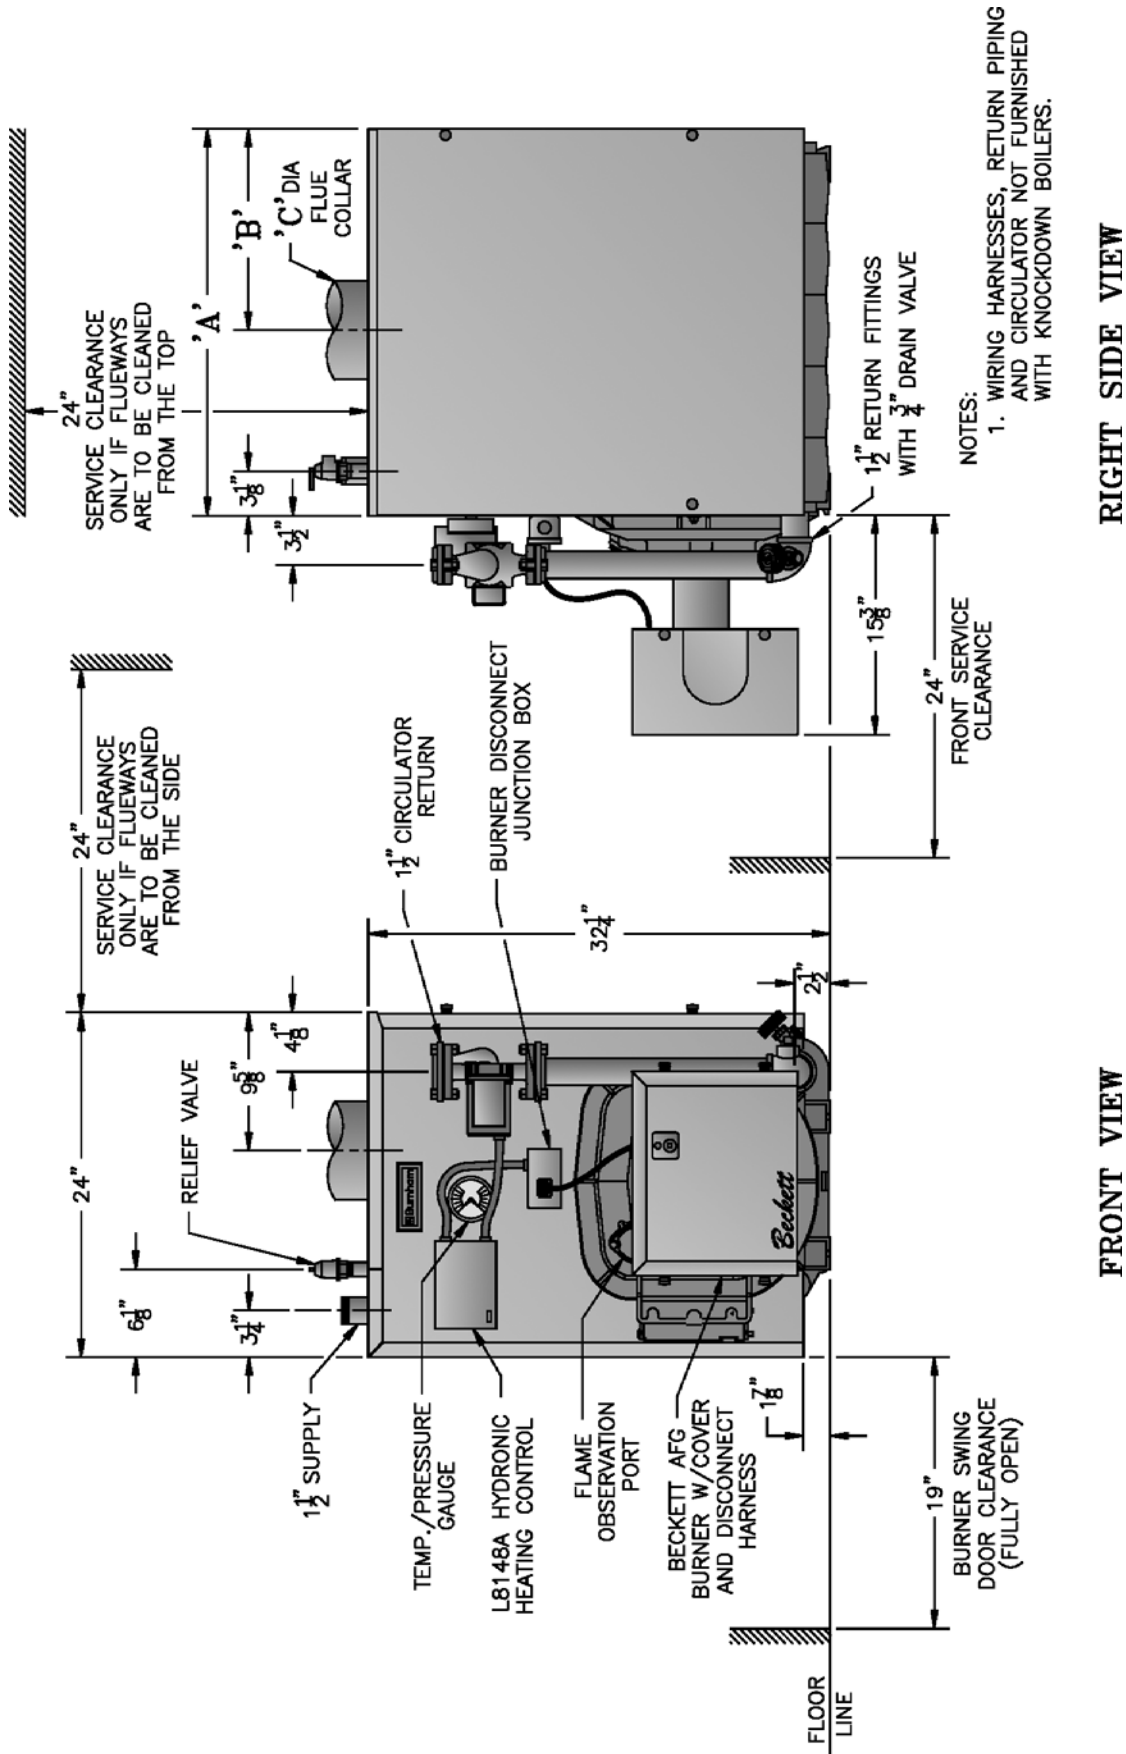

Figure 1A: V82 thru V89 Water Boiler without Tankless Heater
TABLE 1A: DIMENSIONAL DATA (SEE FIGURES 1A THRU 1D)
| Boiler Model No. | Dimensions See Figures 1A - 1D | | | Water Content - Gallons | | Heat Transfer Surface Area - Sq. Ft. | Approximate Shipping Weight (LB.) |
2. Any claims for damage or shortage in shipment must be filed immediately against the carrier by the consignee. No claims for variances from, or shortage in orders, will be allowed by the manufacturer unless presented within sixty (60) days after receipt of goods.
B. LOCATE BOILER in front of final position before removing crate. See Figures 1A thru 1D.